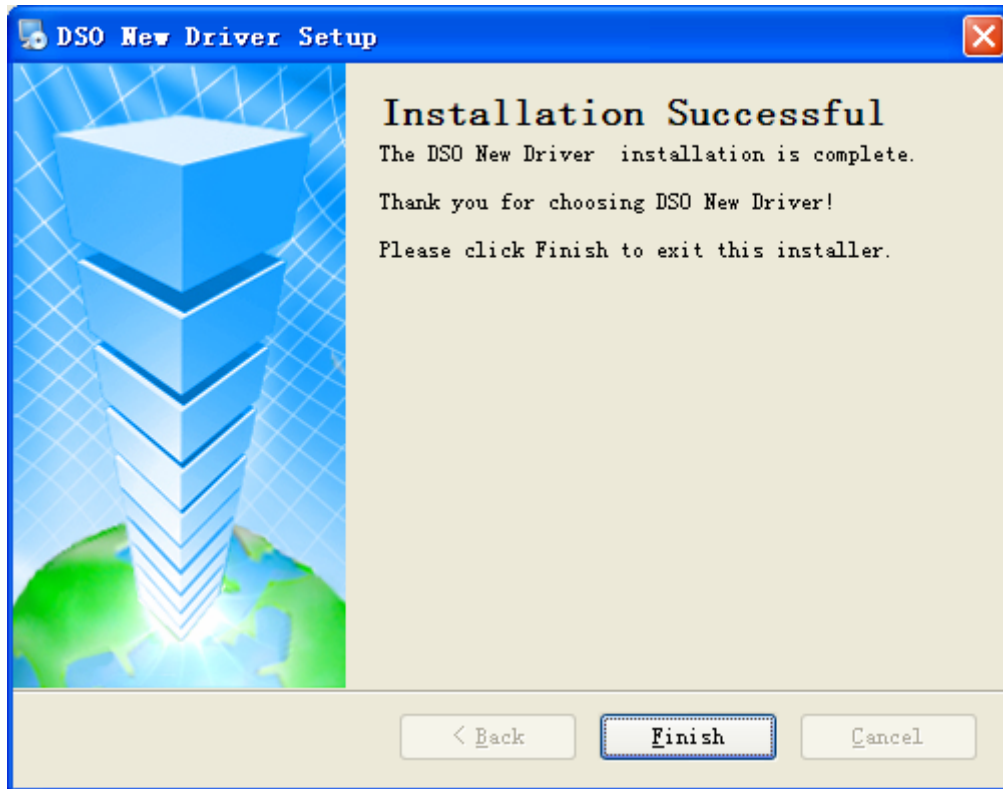

Fig.1-9
**Step 3:** After automatic program installation, an interface as shown in Fig.1-9 will pop up. Click **Finish (F)** to finish installation of the USB driver on the computer.